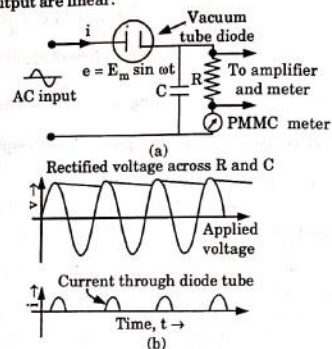

Fig. 4.3.1. Series type peak reading diode vacuum tube voltmeter.
2. The principle of operation is shown in Fig. 4.3.1(b).